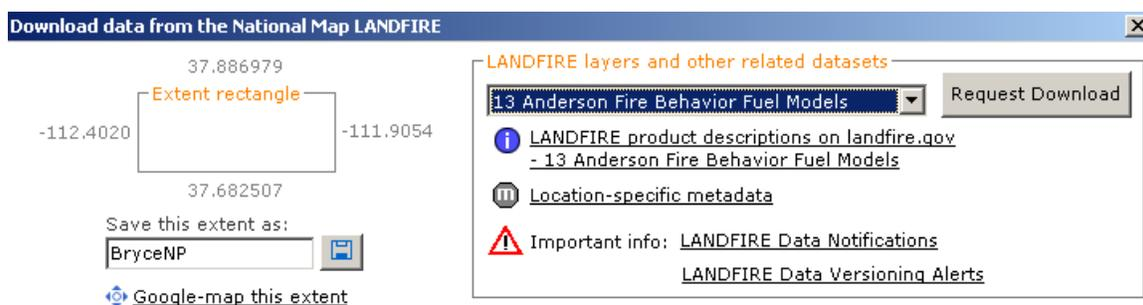

Figure 4-2. Request Download from National Map.
6. Click the down arrow to the left of *Request Download* and select the desired layer. For demonstration purposes, we will choose the first layer, *13 Anderson Fire Behavior Fuel Models* (fig. 4-2).